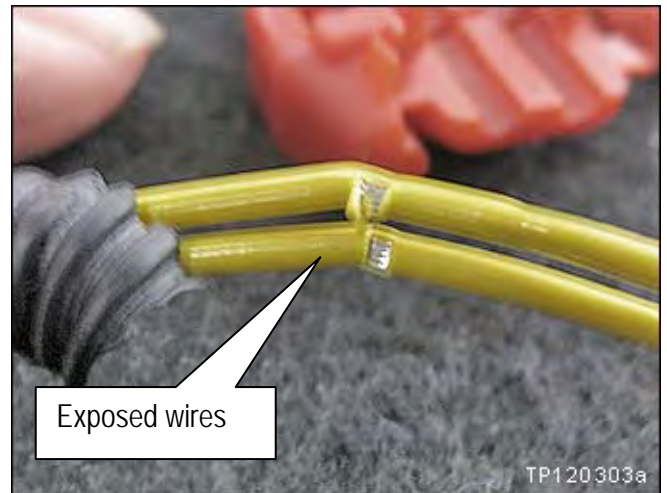

Figure CR21
18. Slide the additional solder sleeve connectors over the exposed wires (see Figures CR21 and CR22).